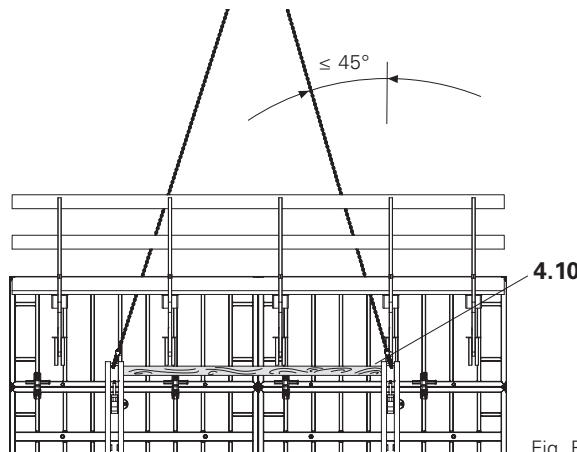

Fig. B2.16
**In order to prevent the strongbacks from being pulled out of position at any time, a piece of timber (4.10) is clamped between the top ends of the strongbacks, see also C1 Moving.** (Fig. B2.16)